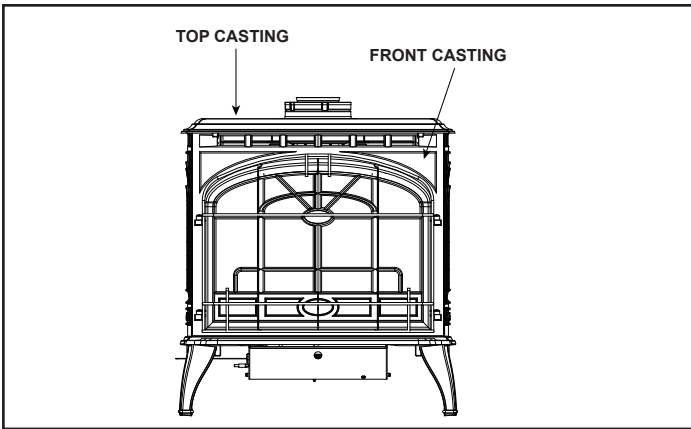

Figure 6.10 - Remove Casting
- Remove safety barrier and front casting, if not previously removed, by grasping it at the top and lifting up. The top casting may need to be lifted slightly to accommodate removal of the front casting. See Figure 6.10.